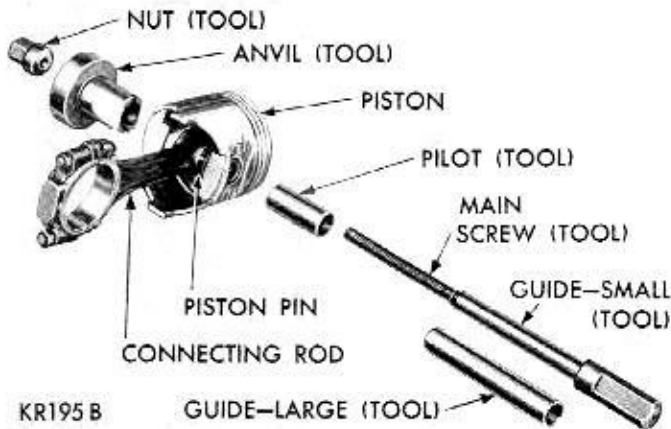
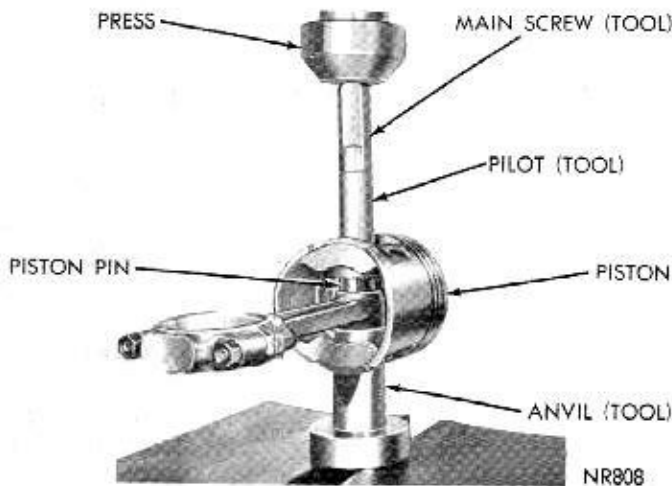
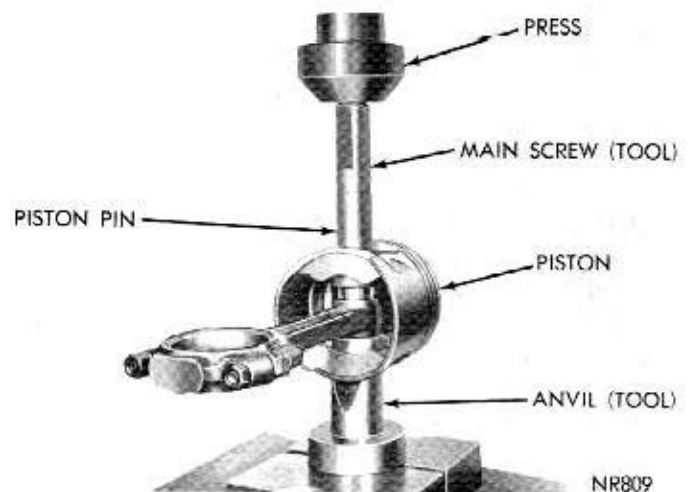

Fig. 33—Tool Arrangement for Removing Piston Pin
Fig. 34—Removing Piston Pin
Fig. 37—Installing Piston Pin
(1) Arrange Tool C-3724 parts for removal of piston pin (Fig. 33).
(2) Install pilot on main screw.
(3) Install screw through piston pin.
(4) Install anvil over threaded end of main screw with small end of anvil against piston boss. **Be sure spring is removed from anvil.**
(5) Install nut loosely on main screw and place assembly on the press (Fig. 34). Press piston pin out of connecting rod.
(8) Install main screw and piston pin in piston (Fig. 37).
(9) Install nut on main screw to hold assembly together. Place assembly on a press (Fig. 37).
(10) Press piston pin in the piston until pin bottoms on pilot, properly positioning pin in connecting rod.
(11) Remove tool and arrange tool parts and piston assembly in the same manner, as shown in Figure 33 for measuring pin fit.